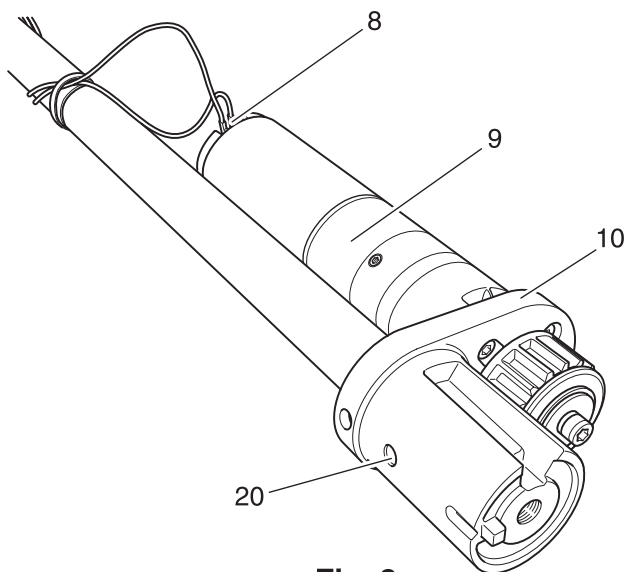

Fig. 3a
- Slightly loosen screw 20 of the motor flange 10 (fig. 3a).
- Pull out connecting wire 4 from the rotating unit 9 (fig. 3a)